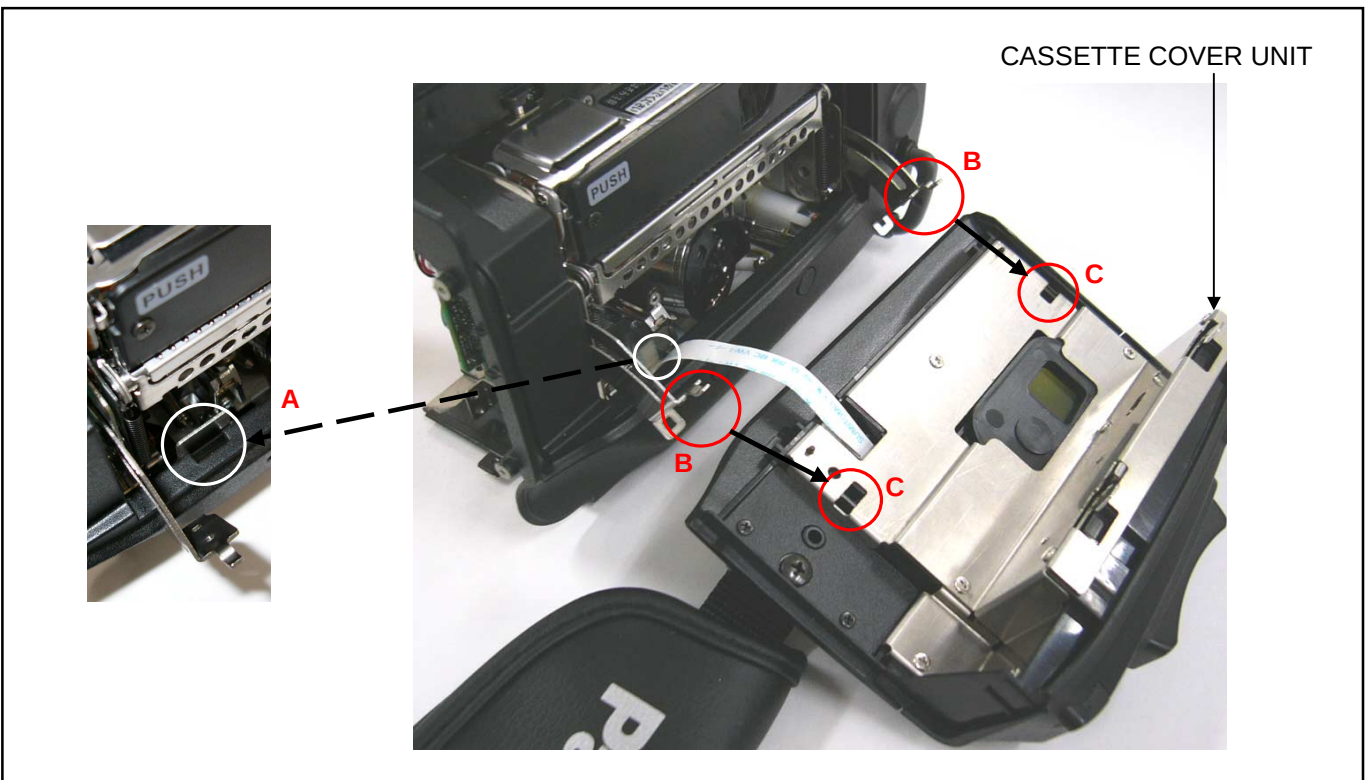

Figure 10-2
1. Pass flexible cable through the portion "A" as shown in figure 10-2.
2. Attach the "B" portion to "C" portion as shown in figure 10-2 and tighten the 2 screws (A).